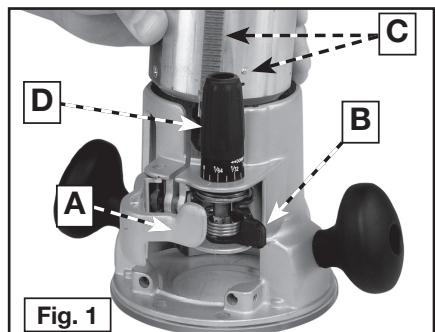

Fig. 1
- (a) Open the clamp (A) Fig. 1.
- (b) Push the lever (B) Fig. 1 toward the power unit.
1. Open the clamp (A) Fig. 1 and set motor in the base.
2. Align the rack and pin (C) Fig. 1 of the motor with the grooves in the base. Pull the lever (B) Fig. 1, and lower the motor into the base.
3. Close the clamp (A).
2. Align the rack and pin (C) Fig. 1 of the motor with the grooves in the base. Lower the motor into the base.
3. Close the clamp (A) Fig. 1.